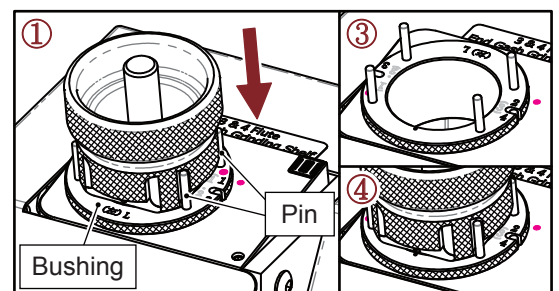

Fig. 12-2
#### 2. 4 Flute End Gash Grinding (II) (Fig. 12-2)
- ① Insert the Chuck set into the bushing on Shelf (II), align Slot No.1 with the two pins where marked as No.1·3, gently push the Chuck set until the grinding noise stops.
- ② Take the Chuck set out and turn it to grind the Slot No.3 in the same way.
- ③ Take the Chuck set out and turn the bushing to No.2·4, align No.2·4 with the pin on the shelf, then insert it to the end.
- ④ Insert the Chuck set into the bushing, align Slot No.2 with the two pins where marked as No.2·4, gently push the Chuck set until the grinding noise stops.
- ⑤ Take the Chuck set out and turn it to grind the Slot No.4 in the same way.